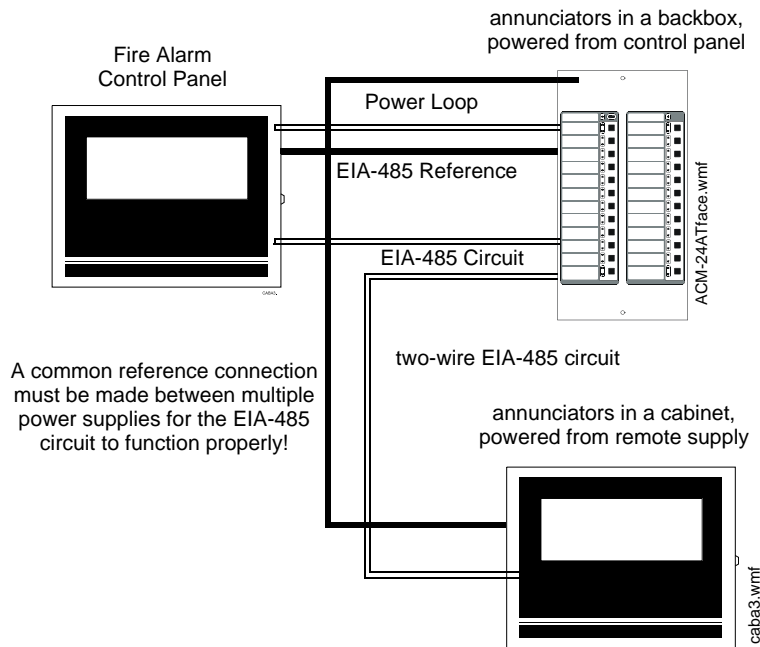

Figure 4.2 Using Multiple Power Supplies With the EIA-485 Circuit
- If annunciators are to be mounted in a separate cabinet or powered by a remote power supply, see Figure 4.2, “Using Multiple Power Supplies With the EIA-485 Circuit”. For information on boosting the EIA-485 circuit signal or adding additional devices (not addresses), see the *RPT-485W/RPT-485WF Installation Manual*.